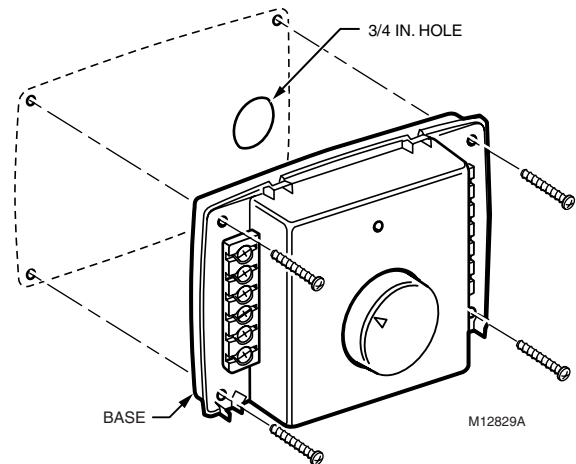

Fig. 4. Mount control on return air duct.
2. Drill 3/4 in. (19 mm) circular opening for the projection on the back of the base. See Fig. 4. Place the device on the duct and mark the mounting holes, or screw in the self-tapping screws.
3. Mount the base on the duct using the four mounting screws provided. Tighten the screws firmly so the space between the base and the duct is seated. See Fig. 4.